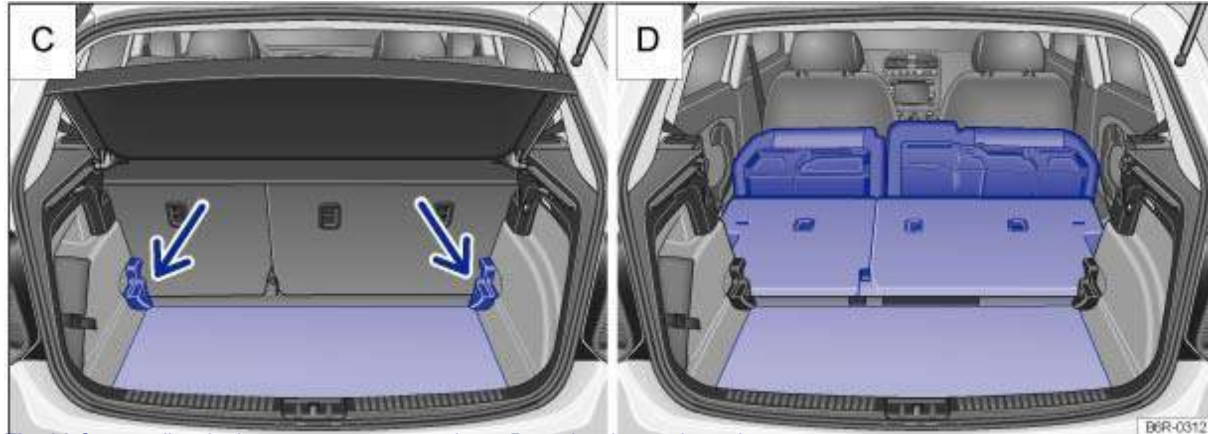

Fig. 91 C: extending the luggage compartment down; D: setting the maximum luggage space
- Lift back the luggage compartment floor and push it under the guides → Fig. 91 (arrows).